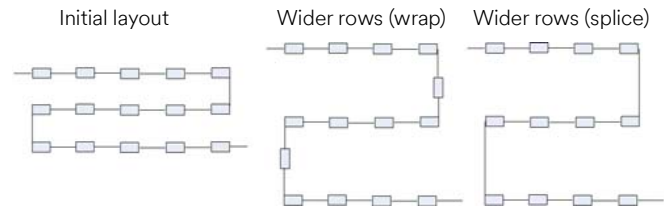

Figure 14. Pre-fixed LED string lengths
- Increased spacing may be accomplished by including an additional LED module on each side as the string is bent around the corner (See Figure 14 - wrap).
- For very large light boxes, it may be more economical to cut LEDs into rows and splice wire between the rows to achieve the desired spacing (See Figure 14 - splice).